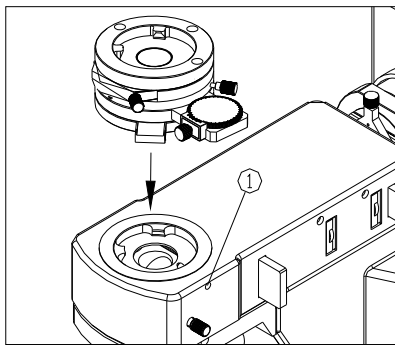

Fig.10
- (1) Loosen the middle head lock screw① fully. (See Fig.10)
- (2) From a little right position, insert the coattail interface on the bottom of middle head into the hole on the Epi-Illuminator with a little left inclined, and then screw down the lock screw.